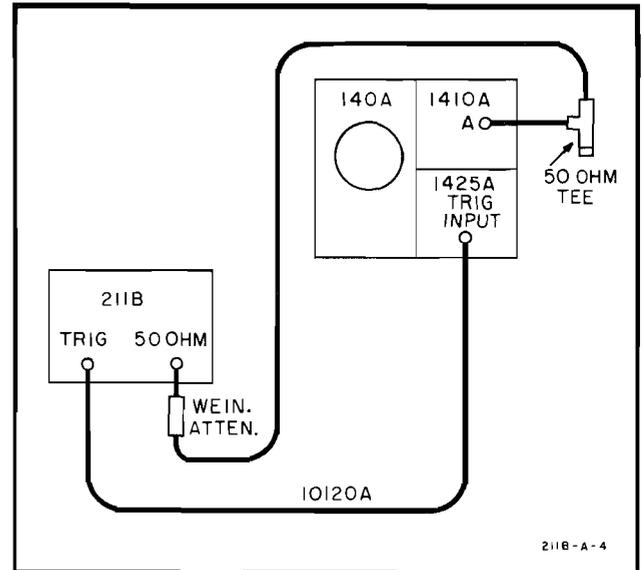

Figure 5-5. 50-Ohm Output Test Setup
- a. Connect the equipment as shown in Figure 5-5.